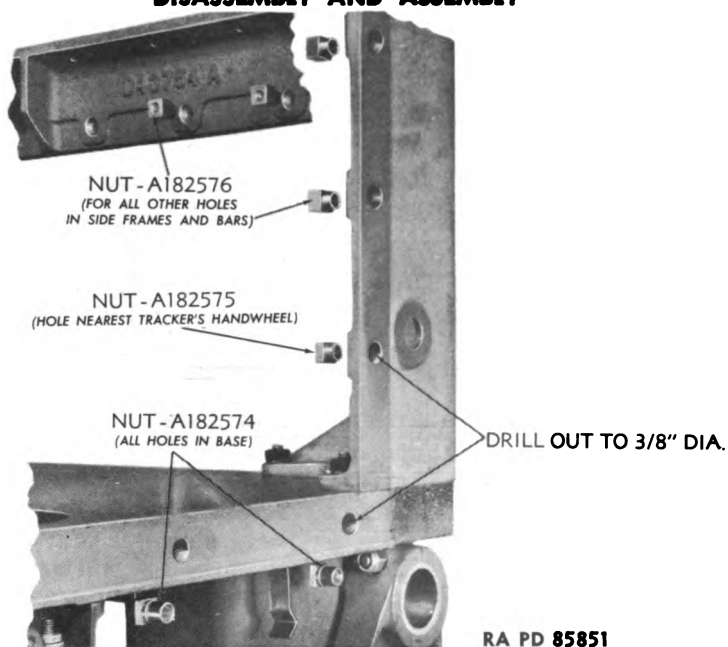

Figure 101 — Old Style Nuts for Cover Plate Screws Can Be Used To Repair Stripped Holes
k. Do not omit any screws or pins in the base or cover plates which might leave an opening for dust or moisture to enter the director. If a cover plate screw hole is stripped, drill out with a $\frac{3}{8}$ -inch drill and insert one of the old-style nuts shown in figure 101. When new dowel pin holes are drilled through the base, the old ones should be plugged. Any chips from drilling or filing must be prevented from getting into the mechanism.
a. There are five pairs of antibacklash gears as described in paragraph 11 c (2). Their effectiveness depends upon being wound to a greater tension than the normal torque they transmit.